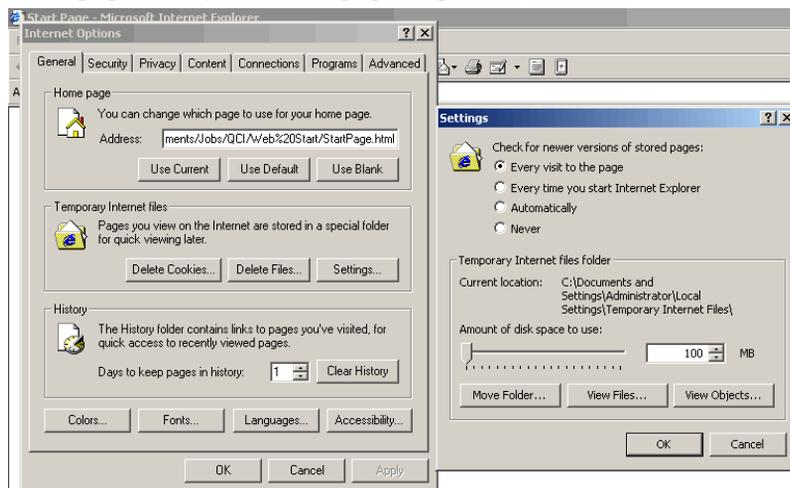

Figure 23
- As you build your graphics, you can view them as they'll appear on the Web by pressing key **F12** to launch **Internet Explorer**. At the web-browser page, click **Refresh**. Often the browser will create a cache of all pages viewed and cause the old page to not be refreshed. To enable automatic refresh, in the browser, click **Tools, Internet Options, Temporary Internet Files, Settings, Check for newer version of stored pages, Every visit to the page** (Figure 23).